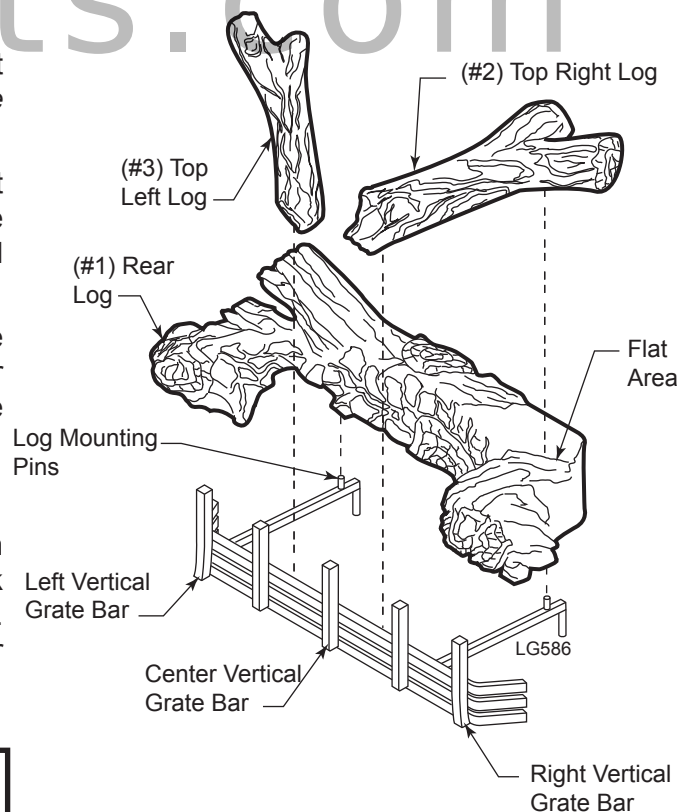

Figure 61 - Log Placement (BDV300, 400 shown)
1. Place rear log (#1) on grate assembly. Log should rest firmly on the two log mounting pins on the bars. *Figure 61*
2. Place top right log (#2) on the rear log. Rest the right back side of the log in the flat area of the rear log. Place the narrow front end of the log next to the center vertical grate bar. *Figure 61*
3. Place the top left log (#3) on the rear log. Nest the forked end of the top left log into the fork or the rear log. Rest the narrow end of the top left log behind the center vertical grate bar. *Figure 61*